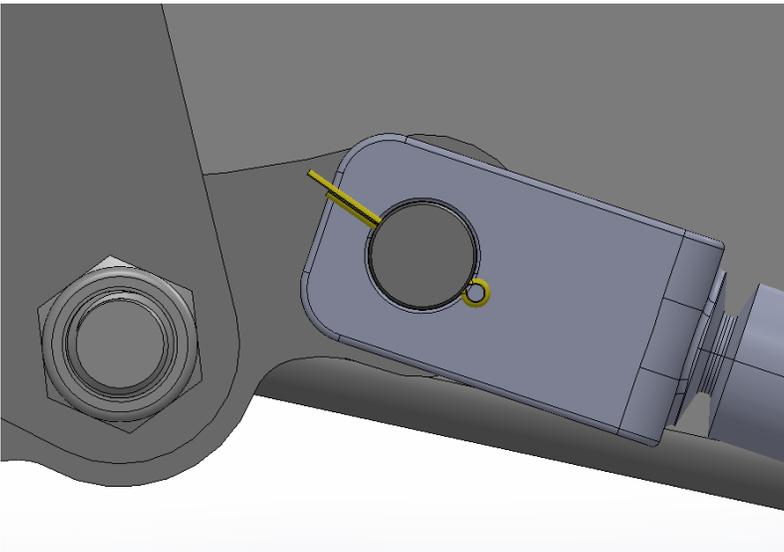

Figure 6. Straighten cotter pin legs
4. Remove cotter pin (if present). (See Figure 6 & 7)